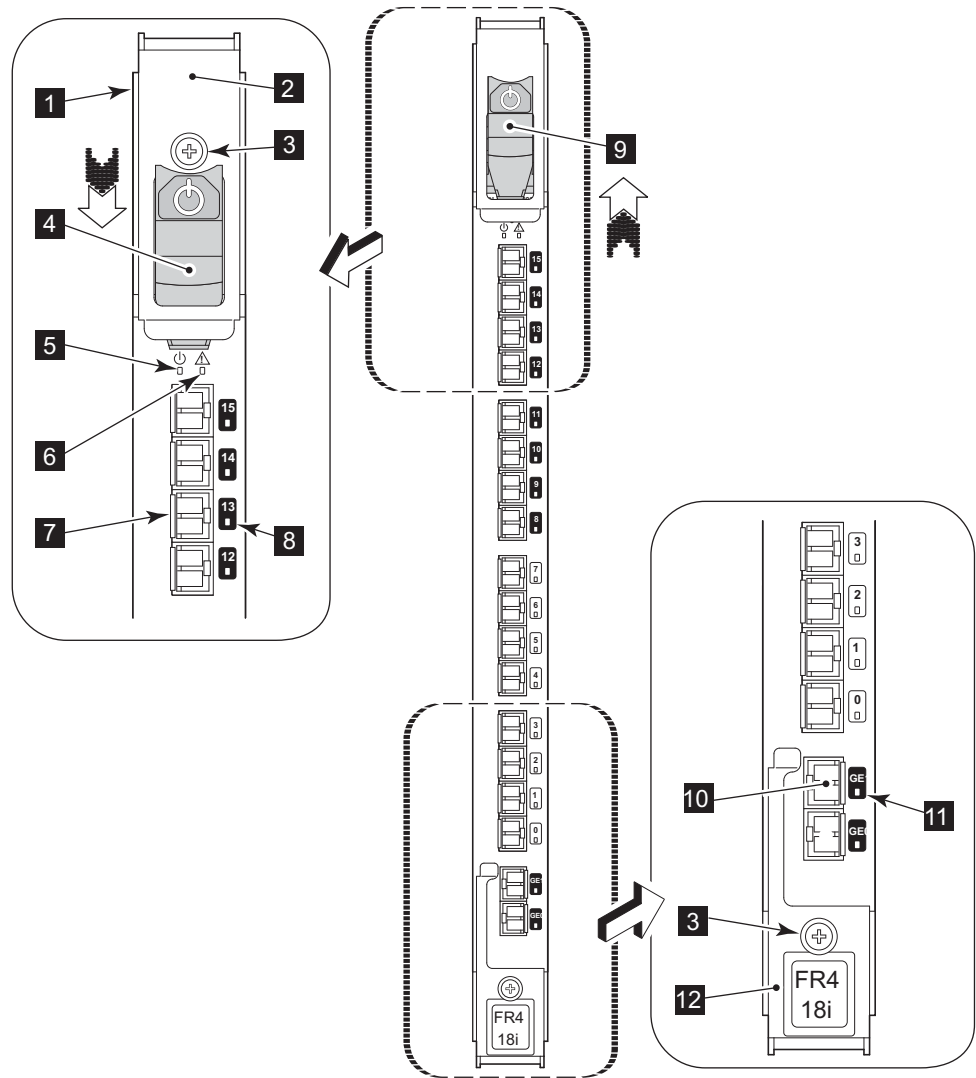

Figure 35. FR4-18i router blade and components
1. Using Figure 35 on page 85 as a guide, check the power LED, status LED, and port status LEDs to identify any possible problems with the router blade.
To install an FR4-18i router blade, complete these steps (refer to Figure 35 on page 85 for blade component locations):
7. Power on the blade using the power switch at the top of the blade (**9** in Figure 35 on page 85). Keep the blade in an offline (disabled) state until the ports are configured.